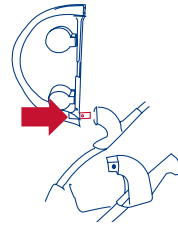

Fig. 10a
10) • **To attach the child tray:** Push the angled tray onto the post at the end of the right armrest, until locked into place (Fig. 10a).